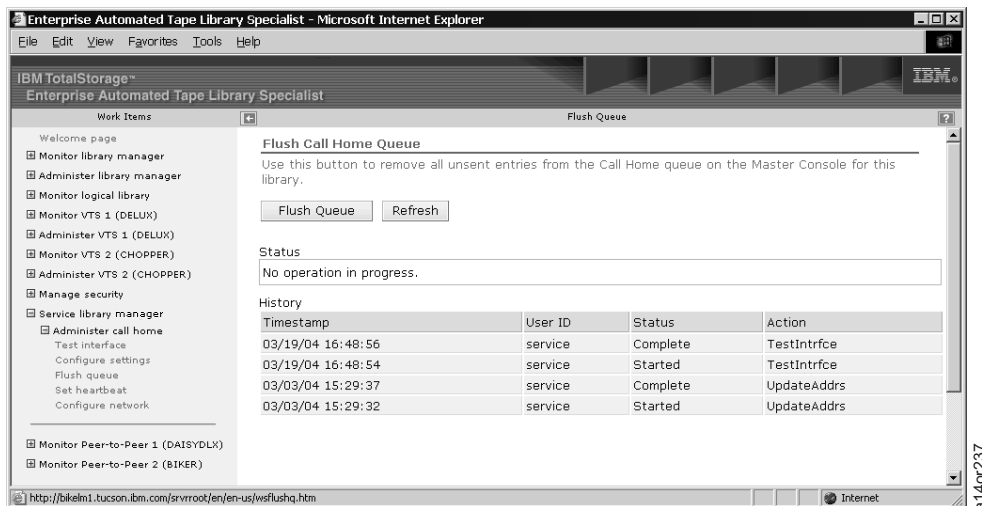

Figure 2-46. 3494 ATL Web Specialist - Flush Queue
- From the “Administer call home” list on the Web Specialist screen (Figure 2-43 on page 2-30), click **Flush queue** to see Figure 2-46. If you are prompted for a userid and password, use the default values of **service** for the userid and **service** for the password. These values can be changed by the 3494 ATL system administrator.